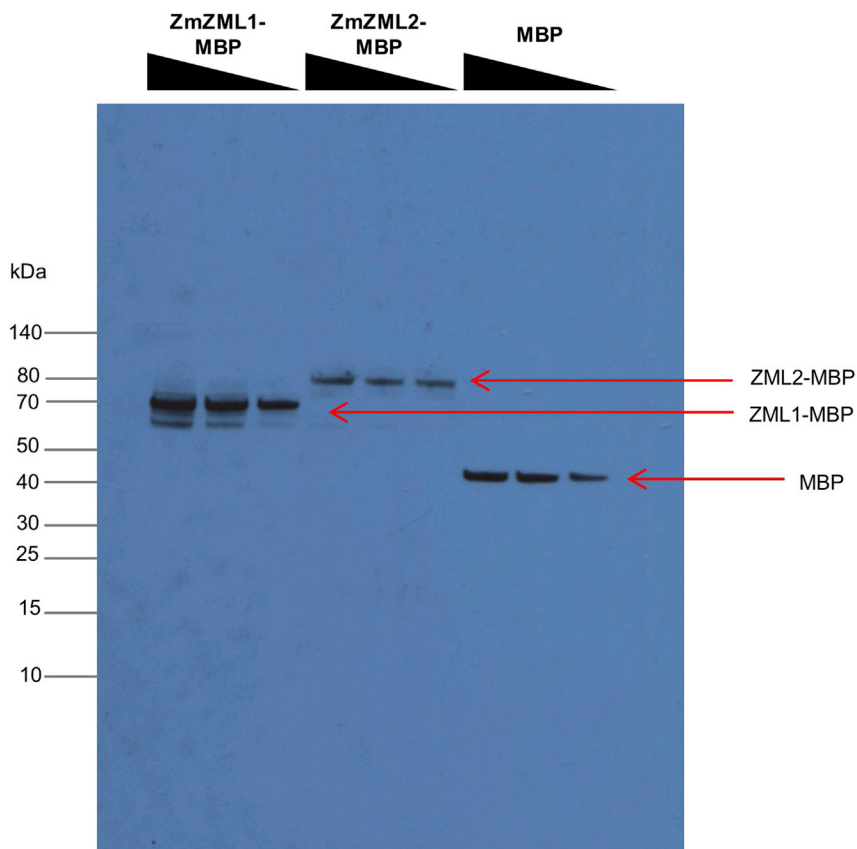

Figure 2. Immuno-detection of purified ZML2, ZML1-MBP, ZML2-MBP, and MBP proteins using purified antibodies raised against MBP
17. Perform a western blot using 5 μ g of purified protein to check the quality. A representative western blot is shown in Figure 2.